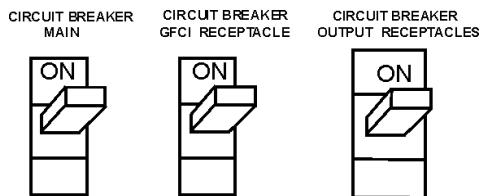

Figure 47. Main and GFCI Circuit Breakers
15. Turn the MAIN, GFCI and LOAD circuit breakers to their "ON" position (Figure 47).